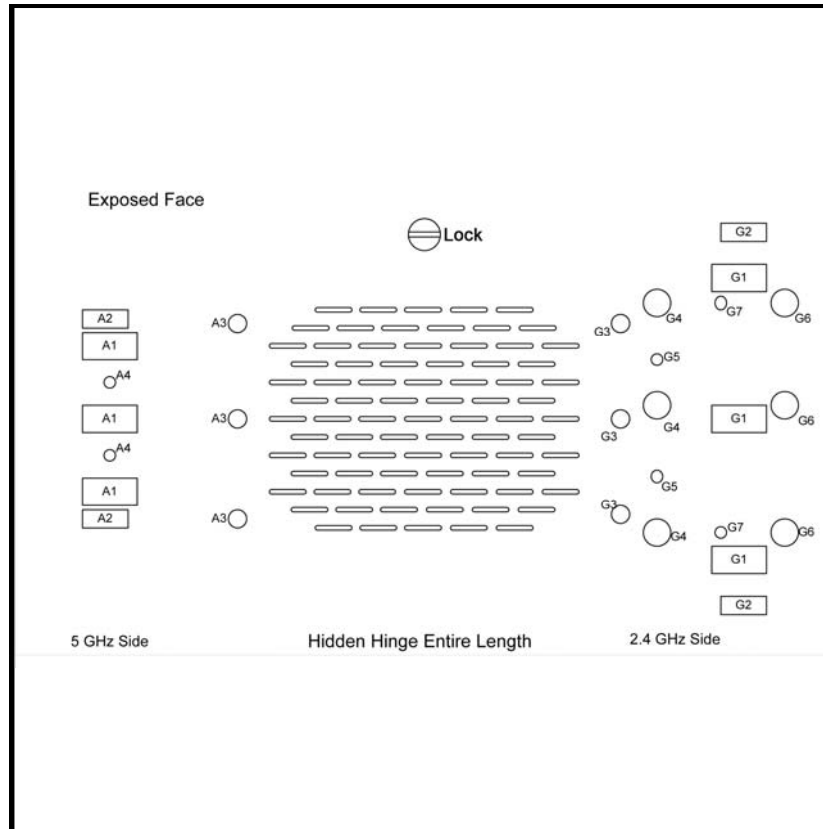

Figure 3 – Hole Usage Chart
5. Each enclosure door includes laser cut punch-out holes to support the following types of antennas while hiding cables (reference Figure 3).